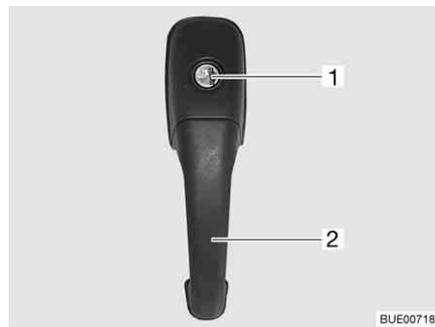

Fig. 38 Door lock of conversion door, outside
- Insert the key into locking cylinder (Fig. 38,1) and turn until the door lock is unlatched.
- Pull on the handle (Fig. 38,2). The door is open.
- Insert the key into locking cylinder (Fig. 38,1) and turn until the door lock is engaged.